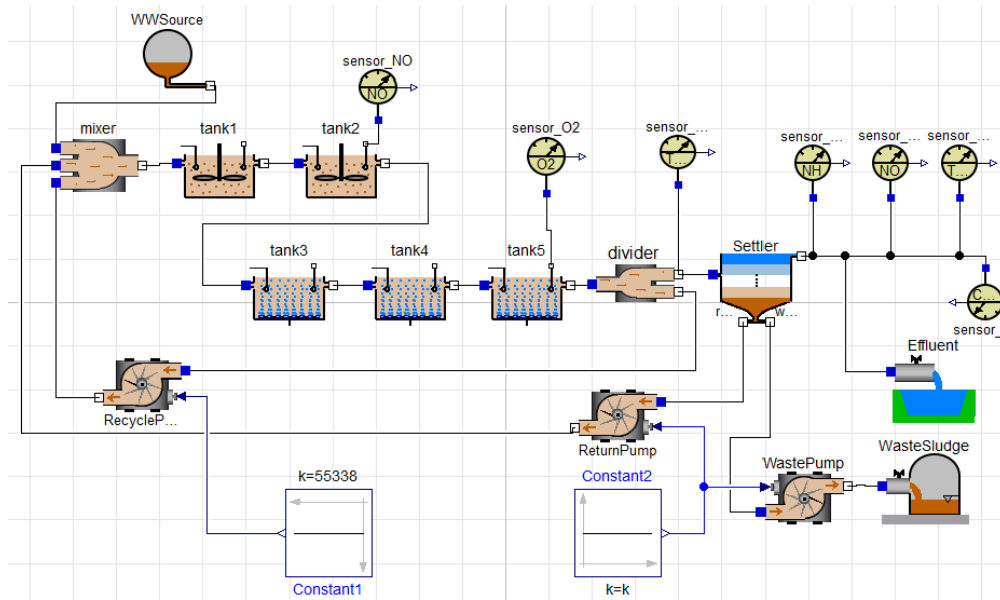

Figure 2: BSM1 Open-loop Dymola Implementation
- Run your dynamic simulation for 100 days to reach steady-state based on the in-fluent data given in the introduction, Table 5 and the specifications in section 4 of the BSM1 report. The flow rate of Q_a is $18446 \text{ m}^3 \text{ d}^{-1}$. Compare your simulation results with those in the file "Verificationdata.pdf" using the component names as shown in Figure 2. Save your results as .mat file to be used later as initialization.